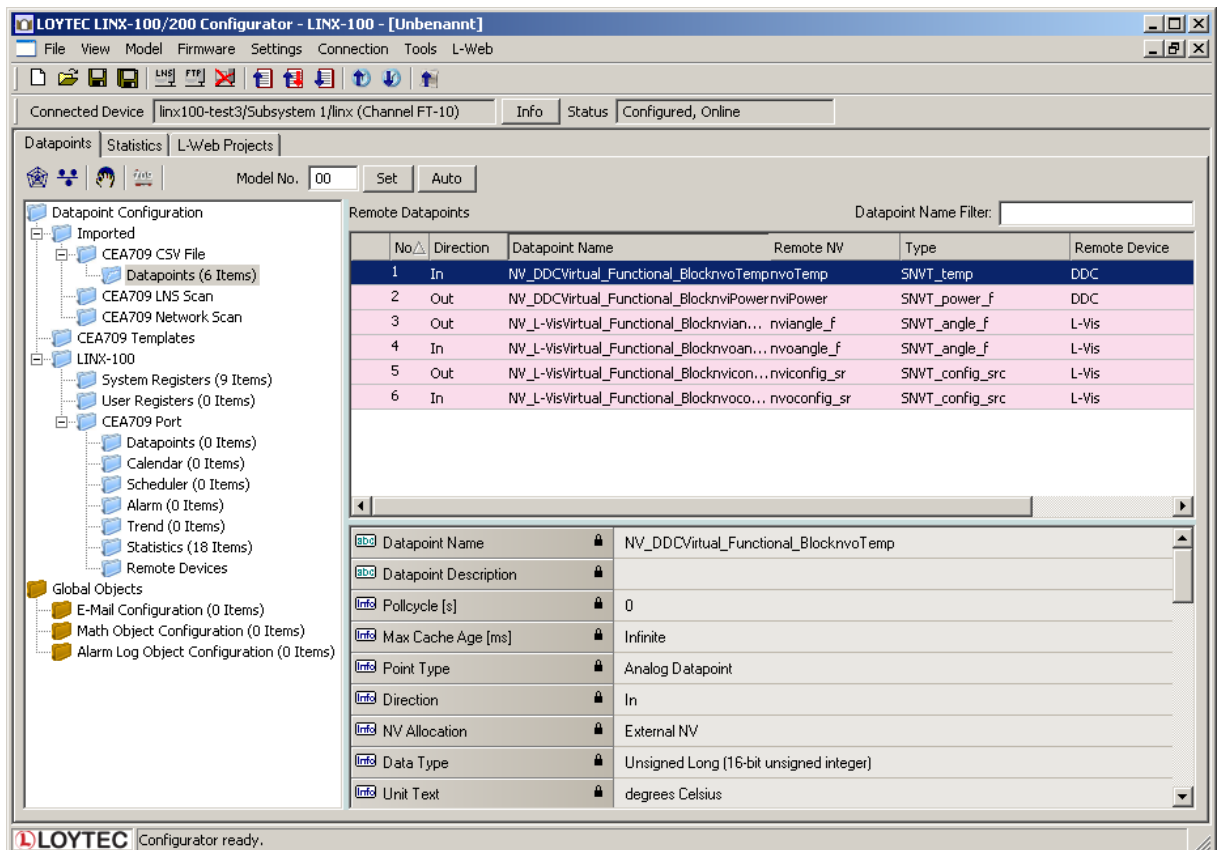

Figure 104: Imported NVs
4. Now the CSV File folder is populated with the imported NVs as shown in Figure 104.